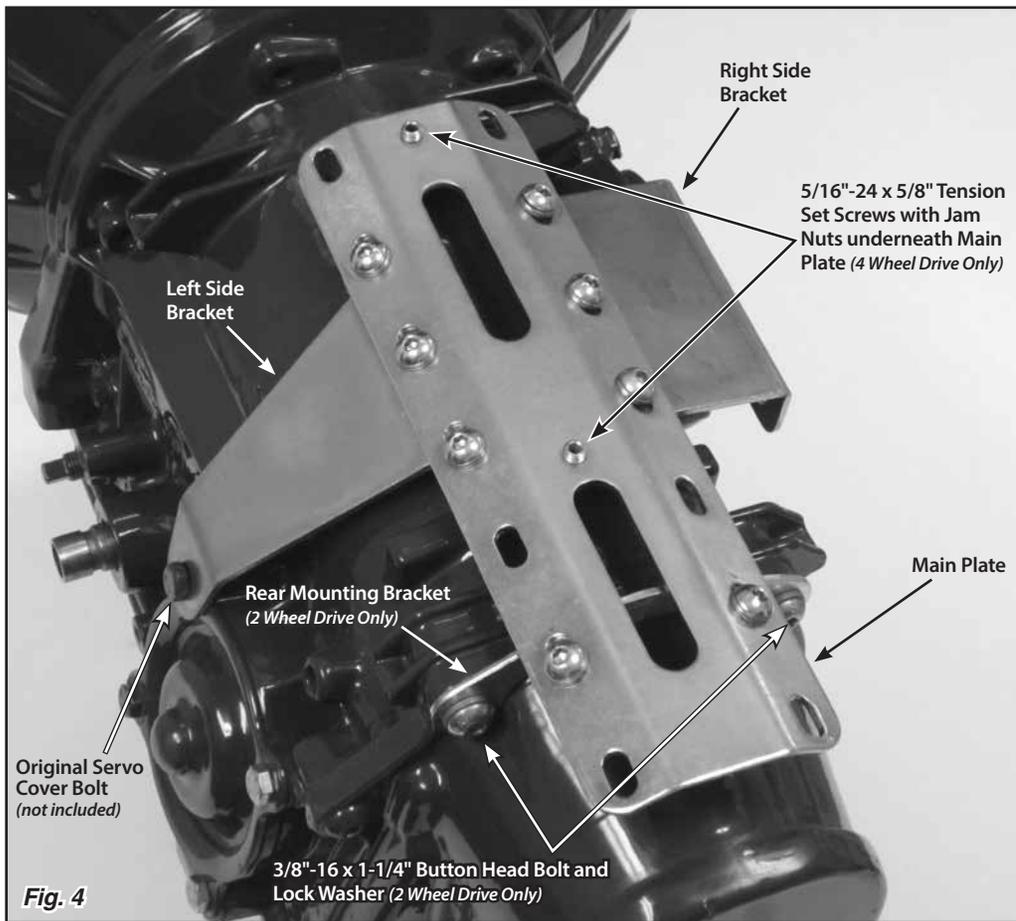

Fig. 4
Step 6: Set the mounting bracket assembly into place on top of the transmission. **Fig. 4** Attach the mounting bracket assembly to the transmission by first re-installing the left and right servo cover bolts you removed, through the side brackets and into the transmission.
Step 7: (All) Tighten all of the bolts on the left, right, and rear (2 wheel drive only) mounting brackets. **Fig. 4**